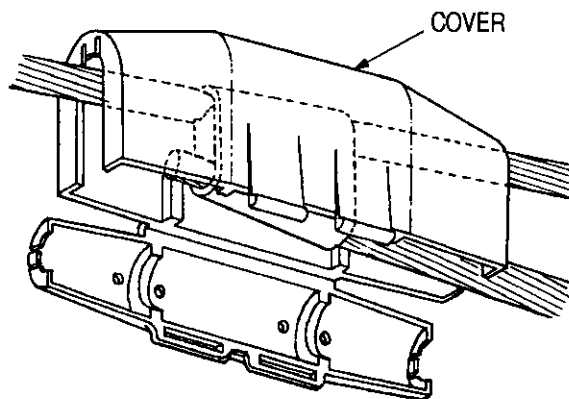

Figure 6 92-264A
6. If the protective insulating cover is required, place cover over completed connection and snap shut. See Figure 6.